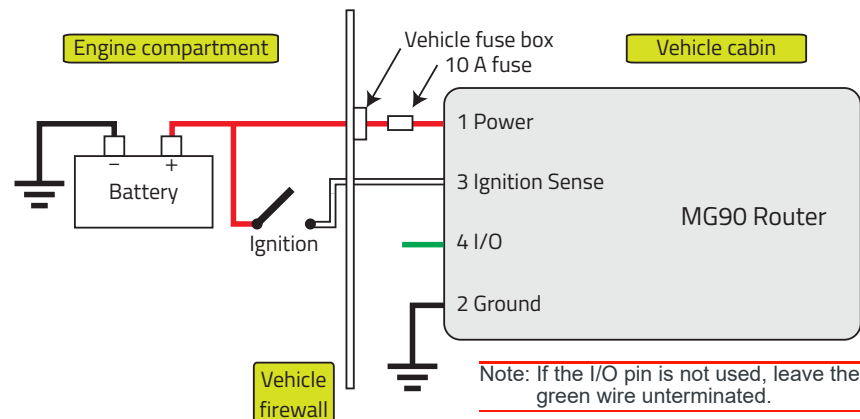

Figure 2-11: Recommended Vehicle Installation
6. Use a 10 A, fast blow fuse, recommended to have no more than  $\pm 10\%$  derating over the operating temperature range, to connect the red (power) wire on the DC power cable to the vehicle's fuse box. (See Figure 2-11.)
For most vehicle installations, Sierra Wireless recommends connecting the white Ignition Sense wire to the vehicle's ignition switch, as shown in Figure 2-11.